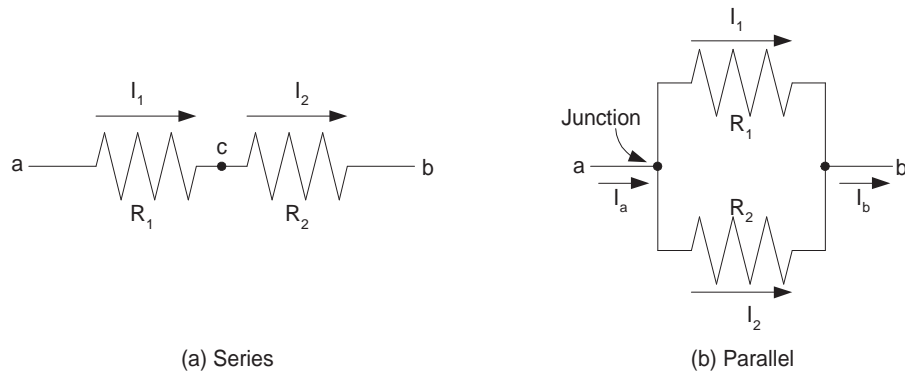

Figure 4.1: Resistor combinations.
If two resistors of resistance  $R_1$  and  $R_2$  are connected *in series* as in Figure 4.1(a), the equivalent resistance,  $R_{eq}$ , between points  $a$  and  $b$  is given by,
If two resistors of resistance  $R_1$  and  $R_2$  are connected *in parallel* as in Figure 4.1(b), the equivalent resistance,  $R_{eq}$ , between points  $a$  and  $b$  is given by,
Current is the flow of electric charge (something like the flow of water). There can be no accumulation of electric charge in a circuit — what comes in must go out somewhere else in the circuit. Hence in Figure 4.1(a) the charge flowing from  $a$  into  $R_1$  must flow out of  $R_1$  into  $R_2$  and through  $R_2$  to  $b$ . As a result we can say that the current,  $I_1$  through  $R_1$  is equal to the current,  $I_2$ , through  $R_2$ . In a series circuit the current has no branching options, and hence must be the same throughout the circuit.
Now what about the current in Figure 4.1(b)? In this case, we say that the two resistors  $R_1$  and  $R_2$  are connected in parallel. The current from  $a$ ,  $I_a$ , must split into two parts, with part of the current,  $I_1$ , going through  $R_1$  and the balance,  $I_2$ , going through  $R_2$ . To avoid a buildup of charge at the junction where the current divides, the total current out of the junction,  $I_1 + I_2$ , must be equal to the total current into the junction,  $I_a$ . That is,  $I_a = I_1 + I_2$ . As we continue through to  $b$ , a similar argument applies to junction where the current recombines. The total current into the junction must equal the total current out, that is,  $I_1 + I_2 = I_b$ . Combining these two results leads us to conclude that
Consider the circuit in Figure 4.1(a) again. There will be a current through the resistor  $R_1$  if there is a potential difference between the two points  $a$  and  $c$ . We call the difference of potential between points  $a$  and  $c$  (the voltage across  $R_1$ )  $V_{ac}$ . Similarly the potential difference between the two points  $c$  and  $b$  (the voltage across  $R_2$ ) is  $V_{cb}$ . Since the change of potential from  $a$  to  $c$  is  $V_{ac}$  and the change from  $c$  to  $b$  is  $V_{cb}$ , then the total change from  $a$  to  $b$  is
In Figure 4.1(b), there must likewise be a well-defined potential difference between the points  $a$  and  $b$ . Consequently, in a parallel circuit, the voltage drop across the two resistors must be the same.
- (a) Connect the two resistors in series (Fig. 4.1(a)) and measure their equivalent resistance in series. In your notebook draw a schematic circuit diagram showing how you connected the ohmmeter to the resistors.
- (b) Connect the two resistors in parallel (Fig. 4.1(b)) and measure their equivalent resistance in parallel. (Check that you are using the proper—smallest possible—scale.) In your notebook draw a schematic circuit diagram showing how you connected the ohmmeter to the resistors.